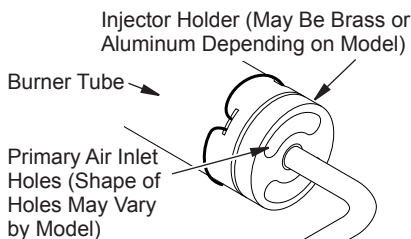

Figure 23 - Injector Holder On Outlet Burner Tube
2. Inspect burner, pilot and primary air inlet holes on injector holder for dust and dirt (see Figure 23).